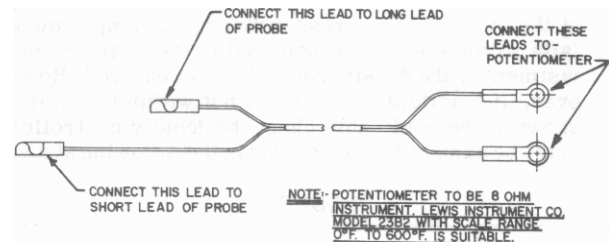

Figure 5. Thermocouple Extension No. ST-265
2. Connect Probe to Thermocouple Extension and Potentiometer: Connect leads of the thermocouple extension, Avco Lycoming tool number ST-265 to the probe and to the potentiometer as indicated in figure 5.